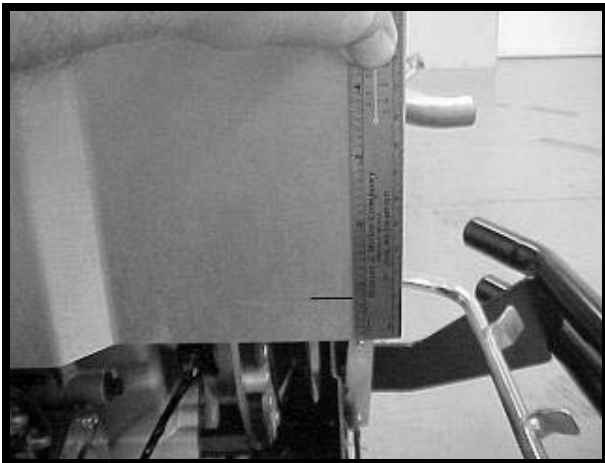

FIGURE 1
2. Measure from the bottom of the right side of the existing muffler shield 24/32" (.765") & approximately 1-3/8" (1.375") in from the edge. Repeat for the left side. Place a reference mark as shown in Figure 1.